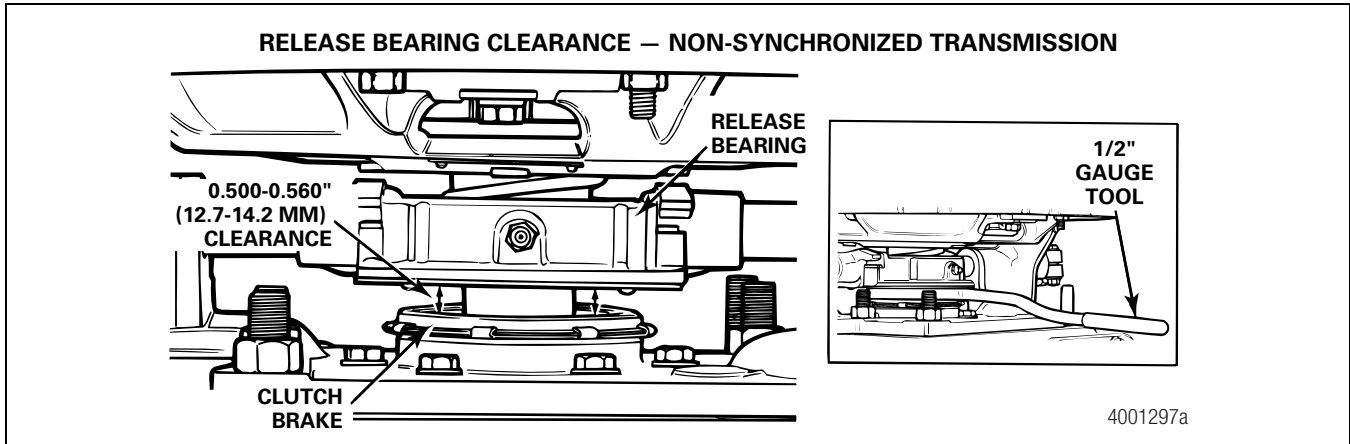

Figure 3.9
1. **Release Bearing Clearance — Non-Synchronized Transmission.** Adjust the release bearing clearance if the distance between the release bearing and the clutch brake is not 0.500-0.560-inch (12.7-14.2 mm). Refer to Maintenance Manual 25A, Clutches. To obtain this publication, refer to the Service Notes page on the front inside cover of this manual. Figure 3.9.